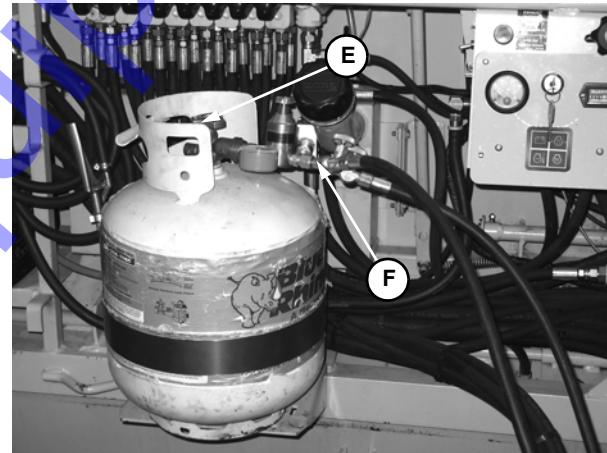

Fig. 24 - Screed Propane Heater
3. Close the tank valve (E, Fig. 24) and the valves on the "Y" valve (F, Fig. 24).